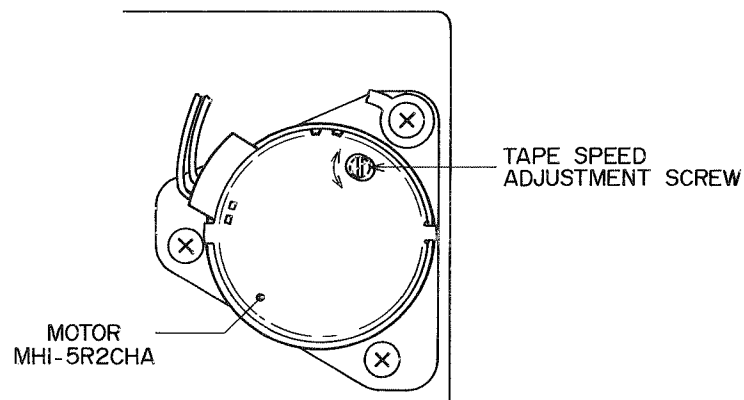

Fig. 7 Tape Speed Adjustment
6. TAPE SPEED ADJUSTMENT (Refer to Fig. 7)